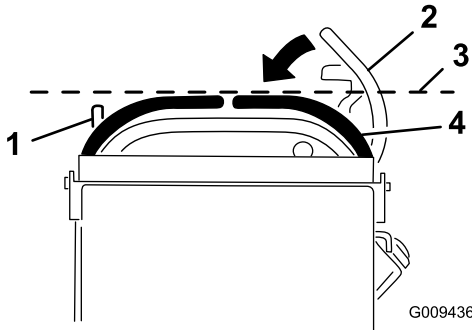

Figure 72
3. Push the motion-control levers down out of the NEUTRAL-LOCK position (Figure 72).
4. Check if the right motion-control lever aligns horizontally with the left motion-control lever (Figure 72).